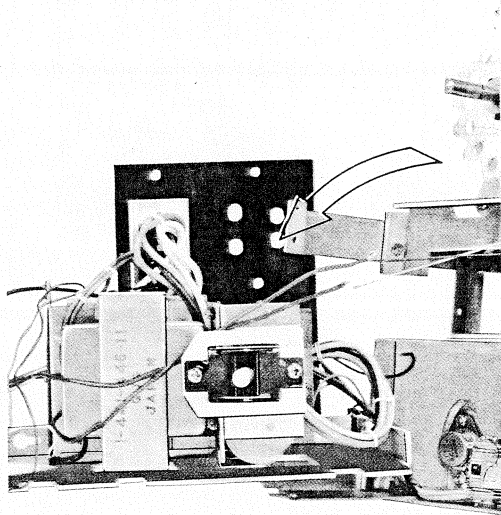

Fig. 2-22
6. Remove the power supply circuit board as shown in Fig. 2-22.